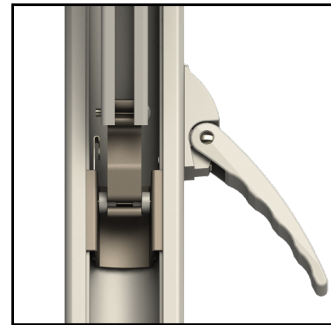
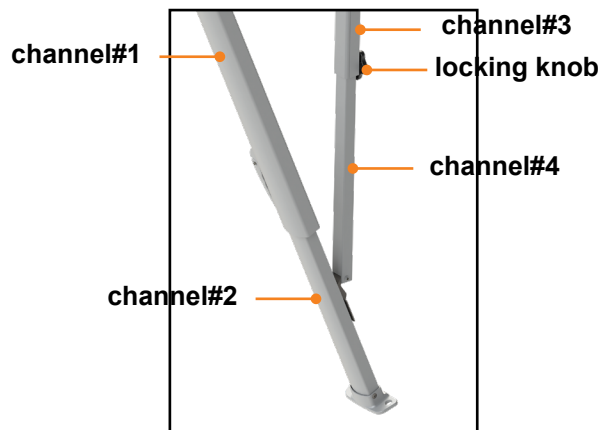
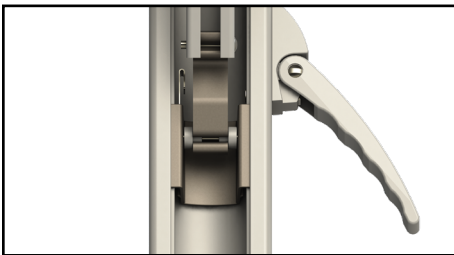
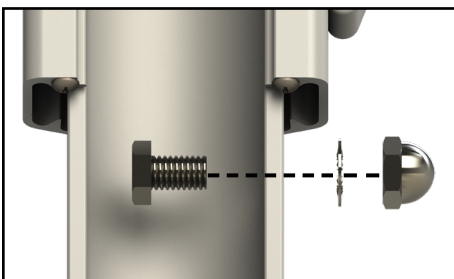

Fig.6
Fig.7
Fig.12
Fig.13
- A. Open the support arm assembly handle (Fig.6) and slide the outer arm lower channel (channel#2) (Fig.7) up or down to desired height. Close the handle and slide the outer arm lower channel (channel#2) (Fig.7) until the locking pin clicks into the nearest positioning hole.
9. Center the upper mounting brackets on the support arm assembly centerline marked previously and arrange the upper mounting brackets to straddle the awning rail. Tighten the black locking knob on the mount arm upper channel (channel#3) (Fig.7).
NOTE: If adjustments need made so the upper mounting brackets straddle the awning rail, loosen the black locking knob on the mount arm upper channel (channel#3) (Fig.7). Slide the mount arm upper channel (channel#3) (Fig.7) up
or down as needed over the mount arm lower channel (channel#4) (Fig.7).
- A. Open the outer arm handle (Fig.12) and slide the outer arm upper channel (channel#1) (Fig.7) up or down to the desired height. Close the handle and slide the outer arm upper channel (channel#1) (Fig.7) on the outer arm lower channel (channel#2) (Fig.7) until the locking pin clicks into the nearest positioning hole.
4. With a non-permanent method of marking, mark the position of the stop hole that is directly below the outer arm upper channel (channel#1) (Fig.7).
5. From the inside of the outer arm lower channel (channel#2) (Fig.7), insert a $\frac{5}{16}$ " bolt through the hole. Secure with a star washer and a $\frac{5}{16}$ " acorn nut using $\frac{1}{2}$ " socket and wrench (Fig.13).
NOTE: It may be necessary to lift the outer arm upper channel (channel#1) (Fig.7) to tighten the acorn nut.
1. Make sure the black locking knobs on the mount/rafter arm upper channel (channel#3) (Fig.7) are loosened and pinch the travel locks together to release the outer arm from the mount/rafter arm.
6. Raise the outer arms to the desired height by releasing the support arm assembly handle and allow the outer arm upper channel (channel#1) (Fig.7) to slide on the outer arm lower channel (channel#2) (Fig.7) Once to the desired height let go of the support arm assembly handle to lock the arm at this position.
1. Lower the roll tube by holding the outer arm and releasing the support arm assembly handle on the side. Let the outer arm upper channel (channel#1) (Fig.7) slide down the outer arm lower channel (channel#2) (Fig.7) until it rests on the acorn nut. Repeat this for the other end.